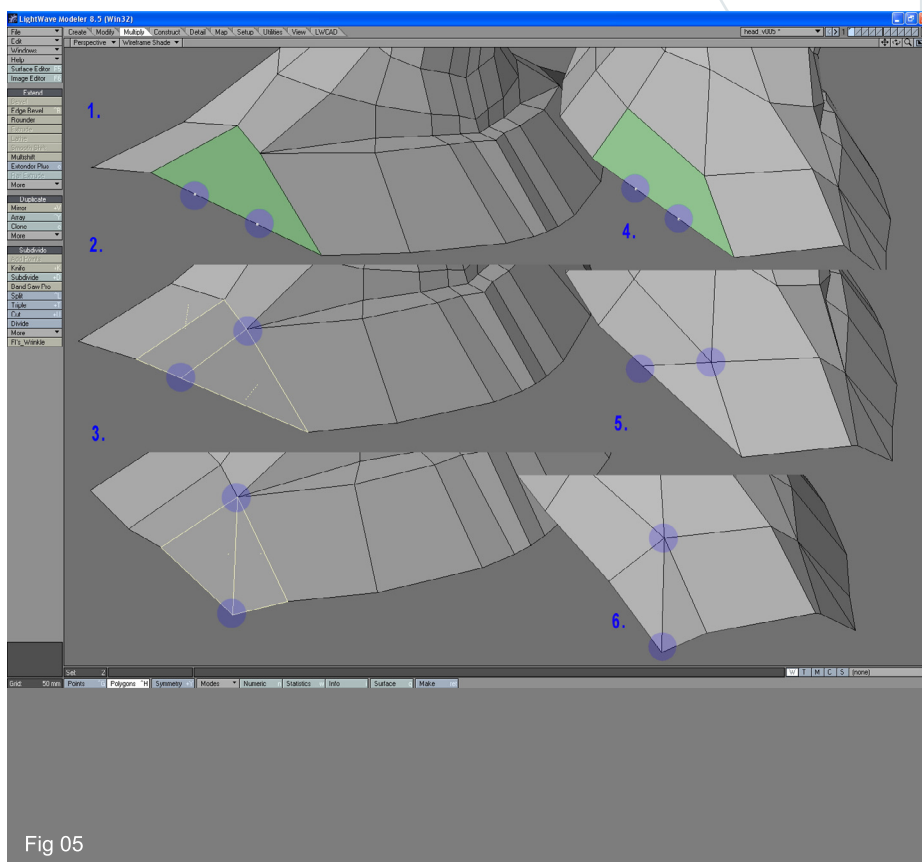

Fig 05
5. Select the polygon marked in the green colour (Fig05):